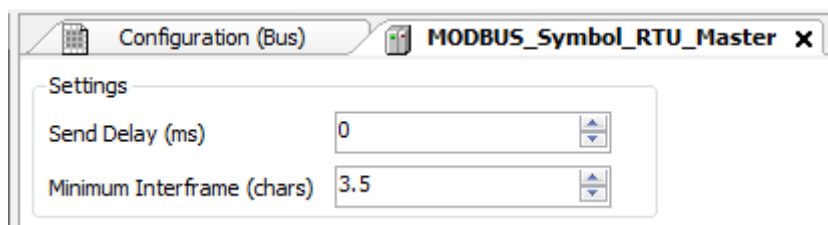

Figure 54: MODBUS RTU Master Configuration Screen
- Configure the general parameters of the MODBUS Master protocol, like: transmission delay times and minimum inter-frame as in Figure 54.